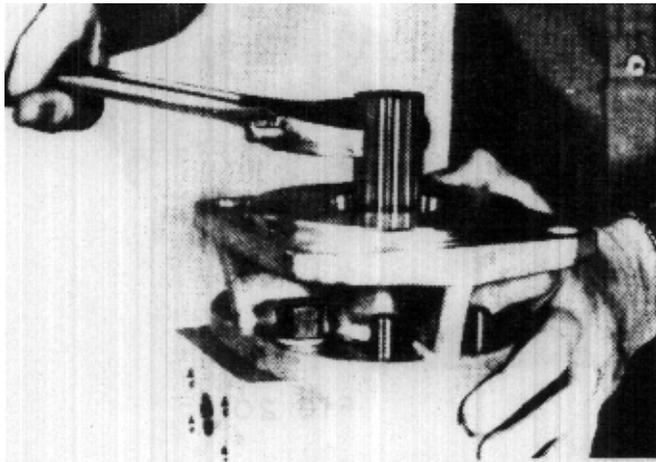

FIGURE 66
42. Install washers (26) and nuts (23). Tighten two opposite nuts. Use a 10" wrench to check the shaft for binding. It should turn with 5 to 7 pounds-feet of torque applied. (Figure 66)